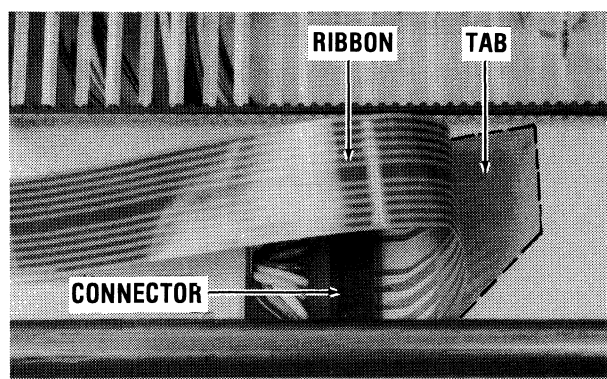

Figure 5-2 Flexible Ribbon Connector
3. Pull the print head out, toward the front of the printer (stop to avoid tension on the flex cable shown in Figure 5-2).
5. Plug the new ribbon cable into the black connector. The tab goes under the ribbon cable. Hold the ribbon and tab together to get more stiffness if required (Figure 5-2).